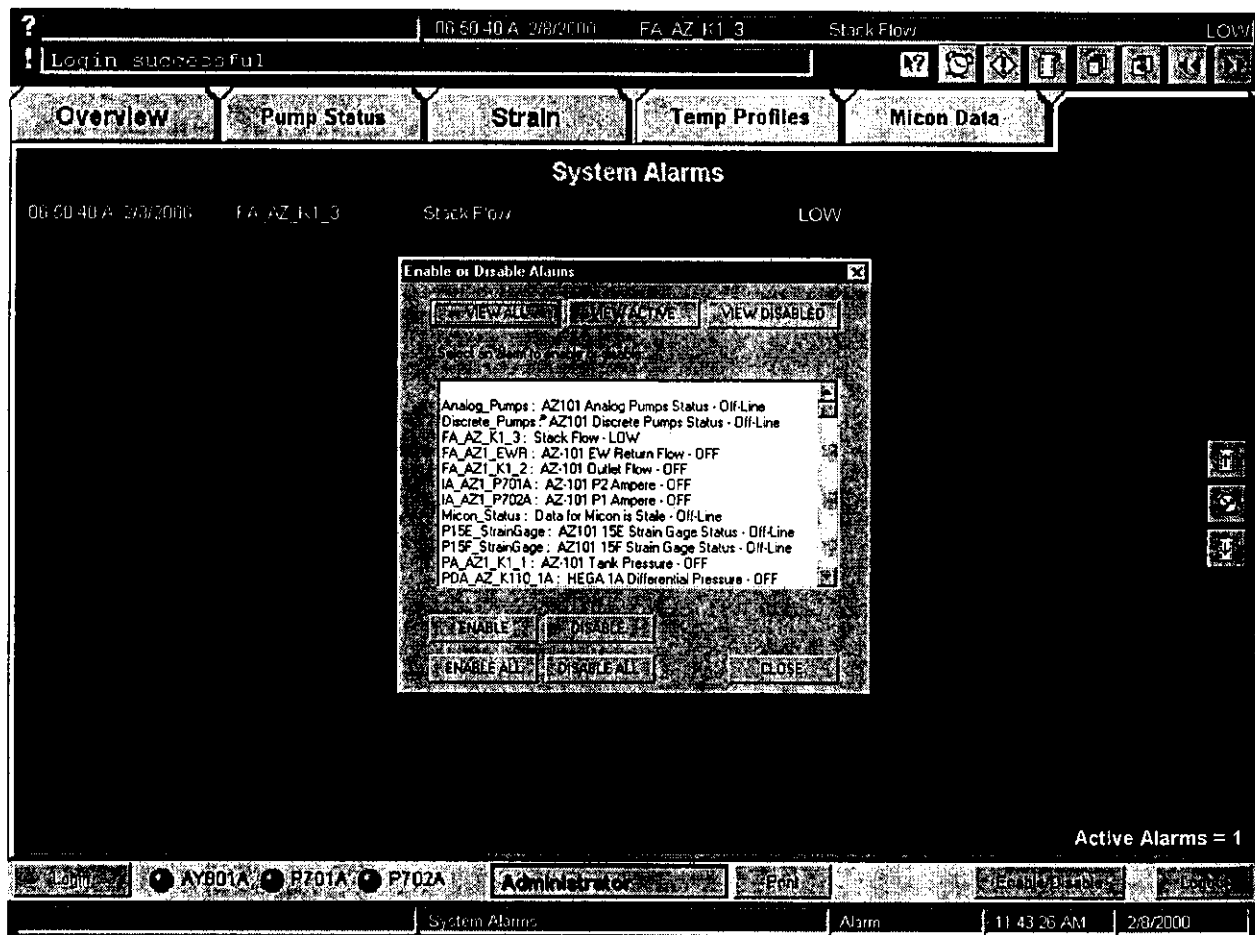

FIGURE 9
- "ALARMS" (Figure 9)
This screen, shown in Figure 9, displays several alarm conditions depending on the alarm icon chosen from the vertical alarm icons menu at the right. You can also use the “Enable/Disable” button to individually, or globally enable and disable alarms. Select this button, and choose a tag name from the scroll list and choose the “Enable” or “Disable” button depending on the current status of that tag. To view status use the “View All,” “View Active” and “View Disabled” buttons. To close, select the “Close Button”.